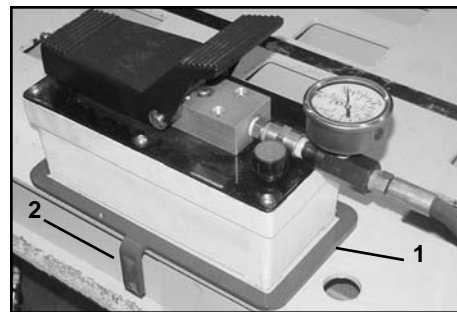

Figure 17
1. Lay storage ring along outer edge of mainframe making sure attachment leg extends downward. Then position foot pump within the storage ring. (See Figure 17.)